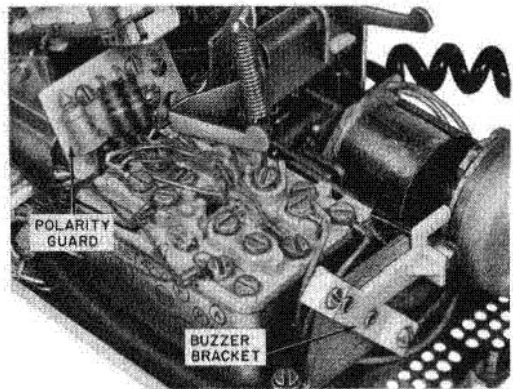

Fig. 12—819040528 (P-90D052) Guard Assembly, Installed
**2.33** Mount the 819040528 (P-90D052) guard assembly to the right dial mounting bracket as shown in Fig. 12.